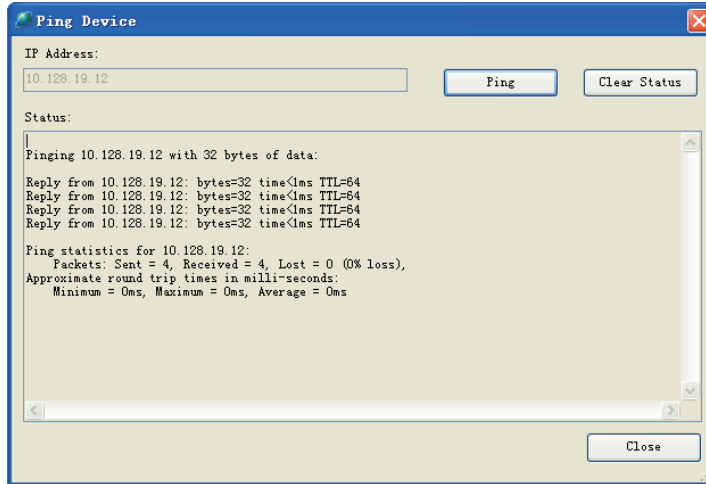

Figure 5: Display interface of Ping Device
(4). After you select the IP address, click the icon of  Ping button displays the information of IP, shown as figure 5: